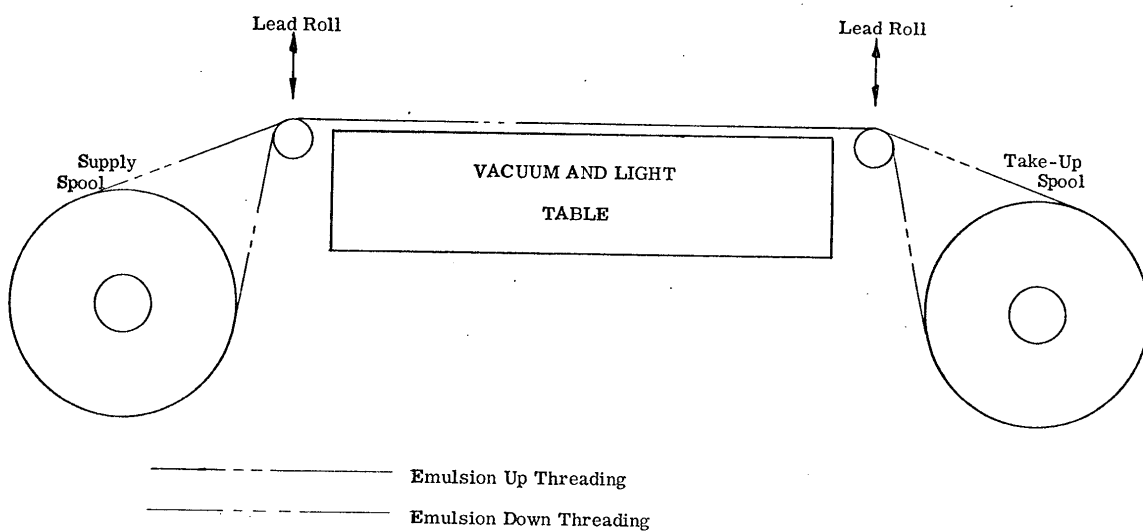

Figure 4-5. Punching Station Film Threading
b. Thread film over the top of the left lead roll (2), across vacuum table (3), over the top of right lead roll (6) and attach to take-up spool. Refer to figure 4-5 for threading diagram.